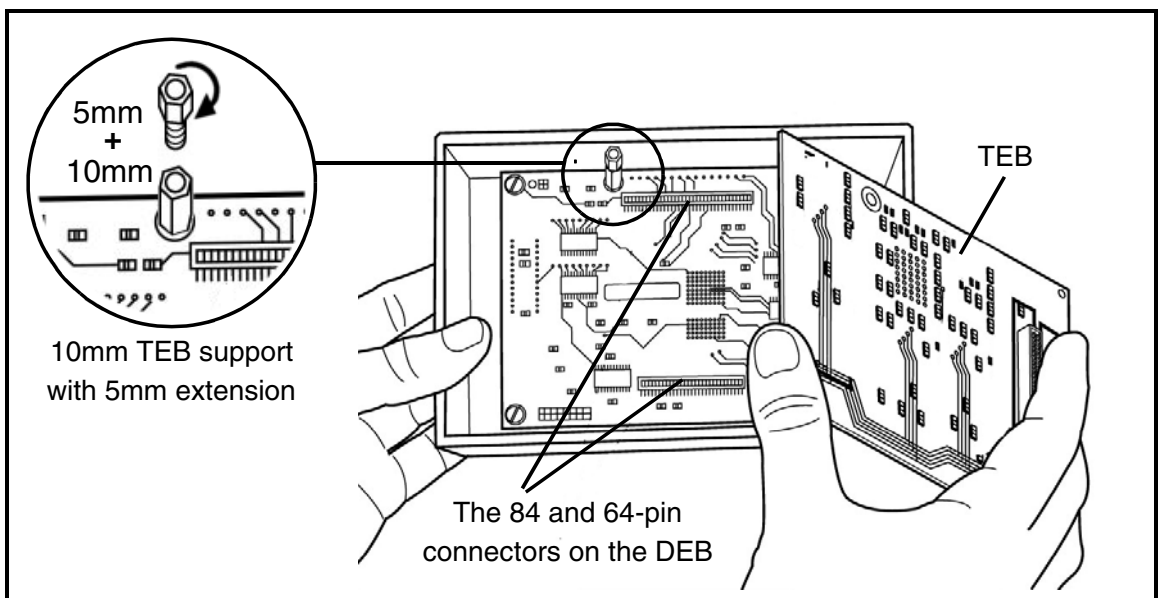

Figure 12: DEB and TEB connectors
The board under the TEB – the Dedicated Emulation Board (DEB), should now be visible (see Figure 12).
- 4 Identify the top and bottom faces of the TEB you wish to install. The bottom face is distinguished by the presence of two or more flex cable connectors placed side by side. The top face is distinguishable by two DEB connectors along the long edges of the TEB. There is one 84-pin connector and one 64-pin connector, which match the DEB connectors shown in Figure 12.
- 5 Install the replacement TEB in the EMU3 probe by inserting the male 84-pin/64-pin connectors into the TEB's female 84-pin/64-pin connectors (refer to Figure 12). Because the connectors are asymmetric, there is only one possible connection scheme.
For some TEBs, the microcontroller is mounted on a support and not soldered directly to the board. In this case the TEB's 84-pin and 64-pin connectors have an additional height of 5mm to allow enough room for the microcontroller. To compensate you will need to add a 5mm extension to the 10mm support on the DEB, as shown in Figure 12 on page 23. The 5mm extensions are provided with your TEB and screw into the 10mm supports. However, remember that if you install a TEB with surface mounted microcontroller later, you will have to remove the 5mm extensions.